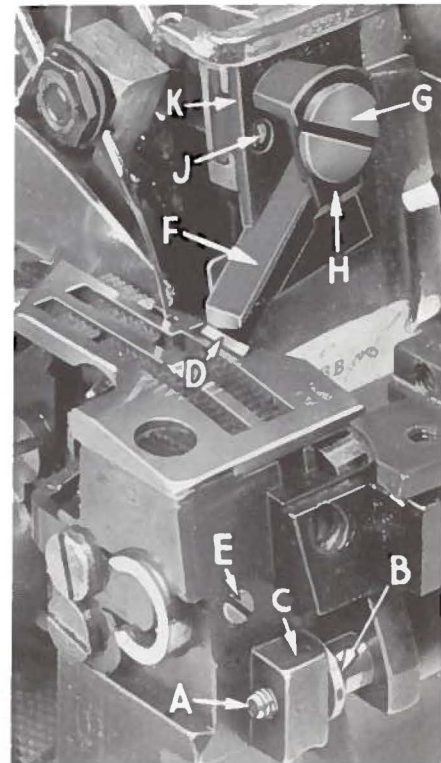

Fig. 11
Replace lower knife holder assembly. In replacing the lower knife holder assembly, tighten screw (A, Fig. 11) so that when the face of the flange on sleeve (B) seats against the throat plate mounting bracket (C) a free lateral motion of the lower knife and holder assembly is obtained when the knife is manually pressed at its upper corner. Lower knife (D) should be set with cutting edge flush with throat plate surface. Adjustments are made with hexagonal head screw which holds lower knife. Lower knife is spring pressed against upper knife, so no lateral adjustment is necessary when width of trim is changed.
Replace upper knife assembly. Clamp upper knife (F, Fig. 11) in position, setting screw (G) to hold clamp (H) in its most clockwise position against upper knife. At bottom of its stroke, front cutting edge of upper knife should extend not less than $1/64$ inch below cutting edge of lower knife.